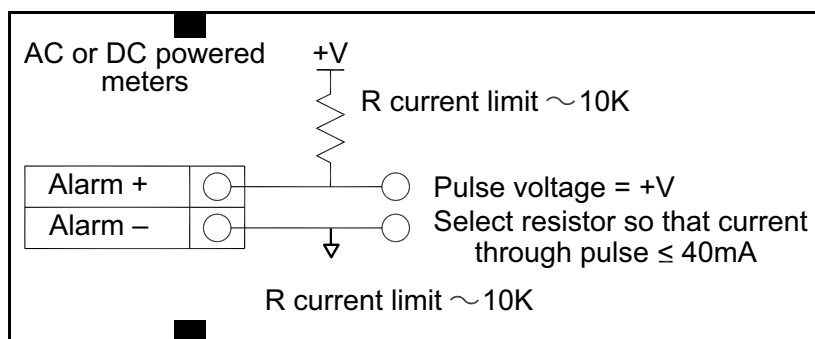

Figure 45: Isolated Alarm Output with External Power Supply
- For AC or DC powered meters, use a separate 5 to 36 VDC power supply (see Figure 45 on page 45). Use this option if a specific voltage is needed for the alarm output.